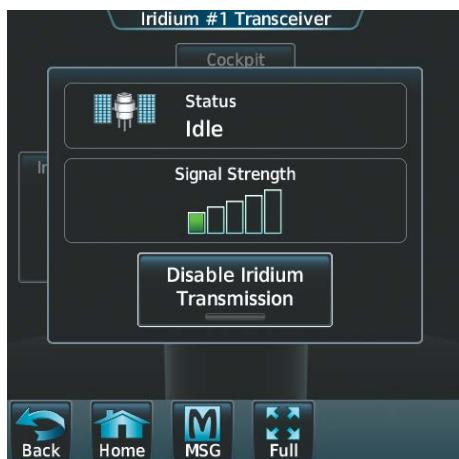

Figure 8-43 Iridium Transceiver Enabled
- 2) Touch the **Iridium #1** Button to display the Iridium #1 Transceiver Screen, as shown in Figure 8-43.